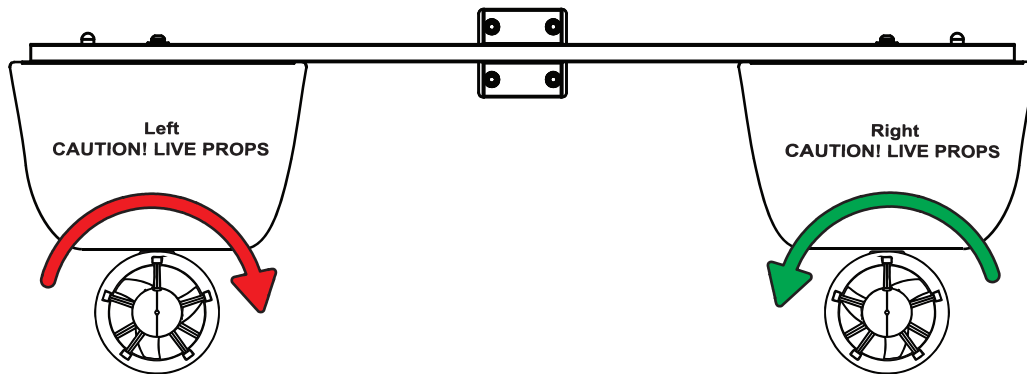

Figure 36: HyDrone™ ASV Prop Rotation
- Motor must rotate clockwise(CW) (Figure 36)
- Motor must rotate counter-clockwise(CCW) (Figure 36)